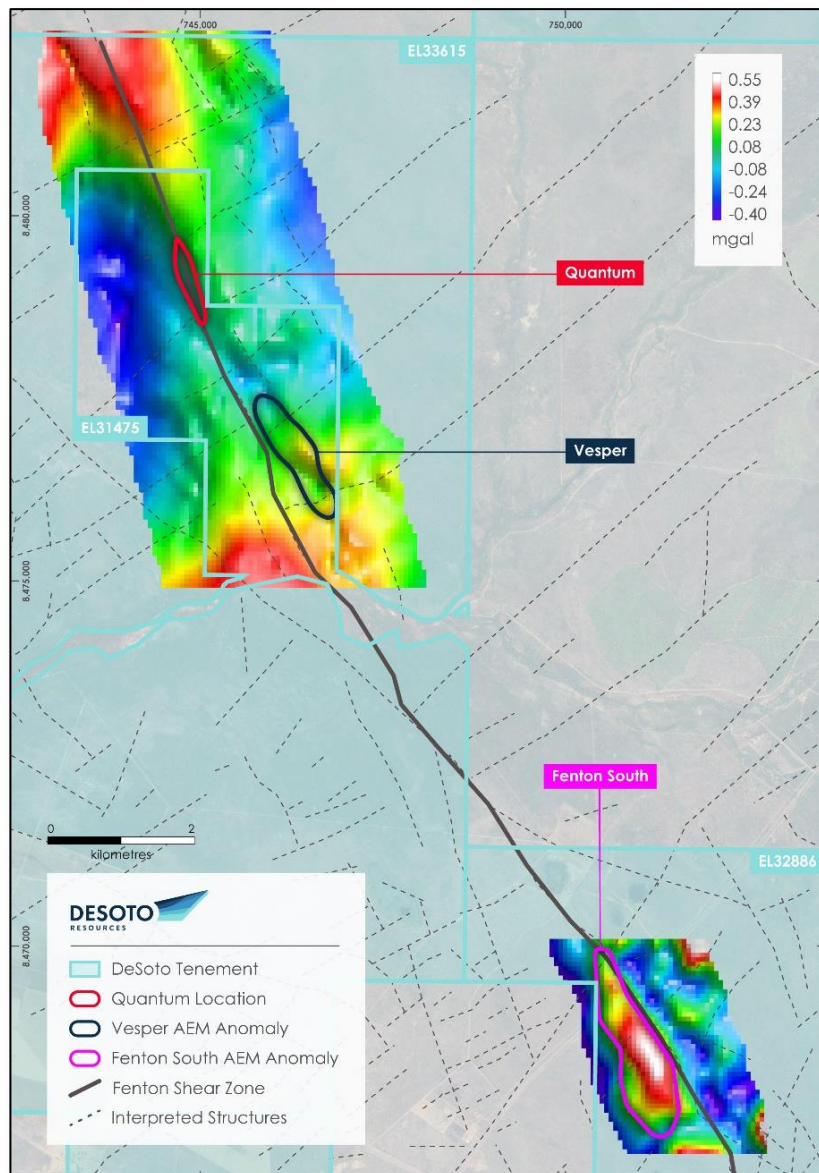

Figure 2 - Completed and modelled ground gravity data (in mgal) with AEM anomalies and interpreted structures.
- Preliminary assessment and modelling of the newly acquired gravity data has further upgraded and refined targets at Spectrum (Quantum and Vesper targets) and Fenton South Projects (Figure 2).